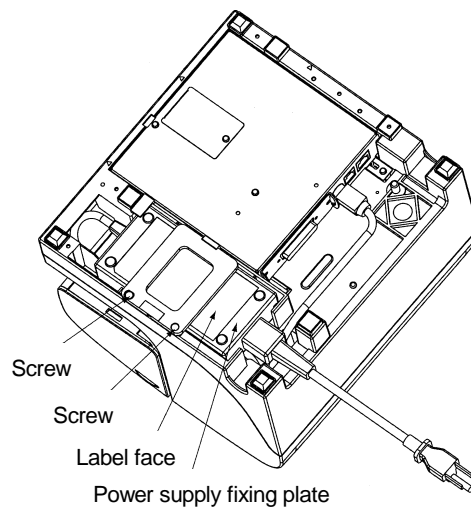

Figure 4.5.2
- ③ Fix the power supply fixing plate with two screws that are packed with the printer. (See Figure 4.5.2)